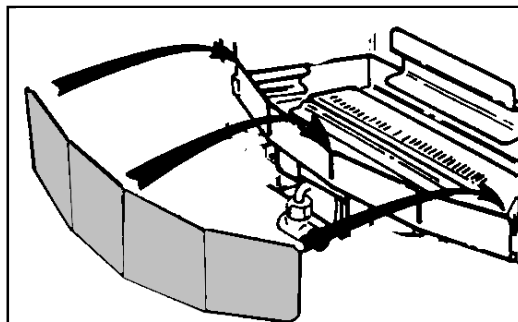

Figure 12 Burner Tray Trim
2. Fit the burner tray trim over the front rim of the burner tray. Push the trim fully down. See figure 12.